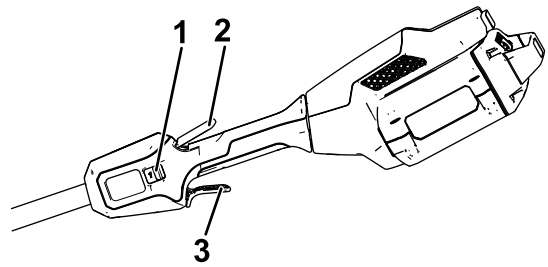

Figure 11
4. To start the trimmer, squeeze the lockout trigger, then squeeze the run trigger (Figure 11).